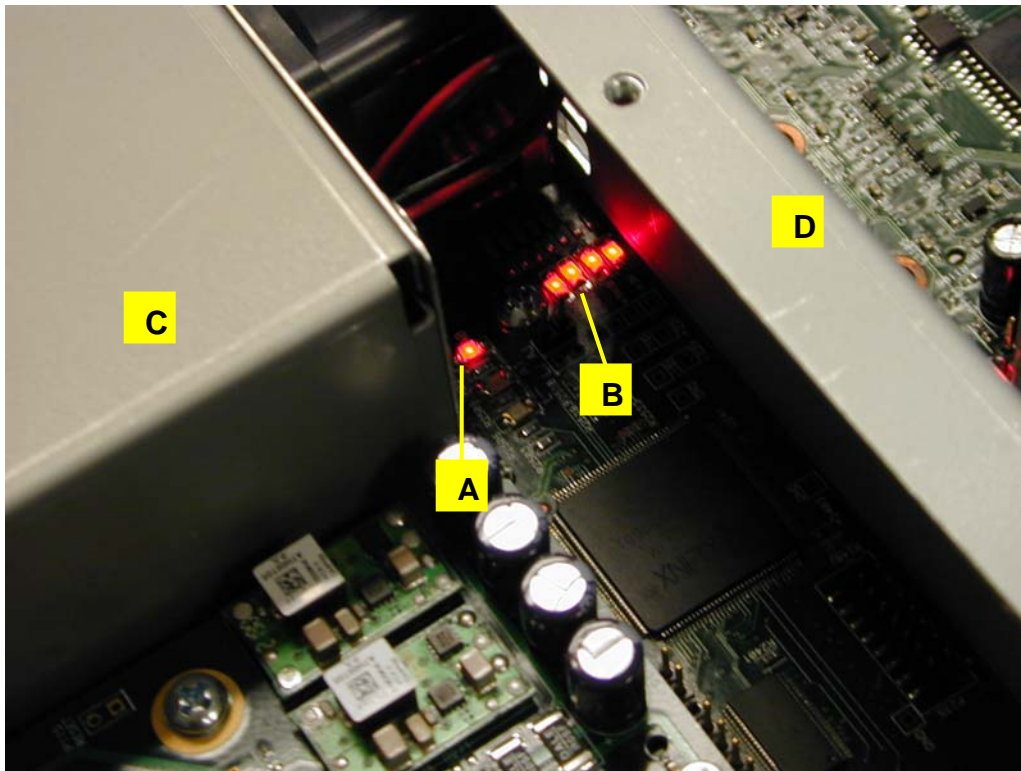

Figure 1 Power supply indicators
6. Inspect the LED indicators (figure 1 point A and B) on the module located in between the power supply module (figure 1 point C) and the support frame (figure 1 point D).
9. These LED indicators show the status of the various DC supply rails in the instrument. If any of the power supply LED indicators are not lighted as shown in figure 1, the power supply module (point C) may be failing and need to be repaired or replaced.